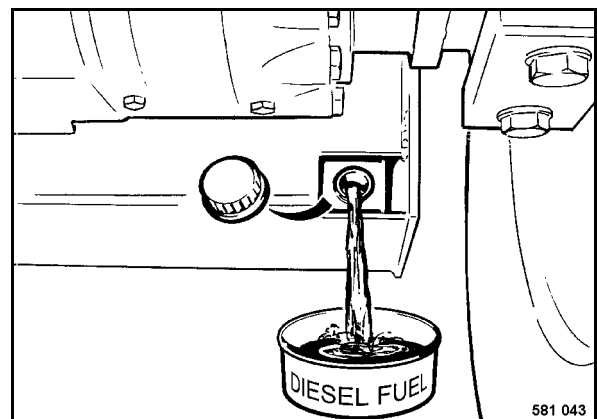

Fig. 143
- Unscrew the cap (Fig. 143) and drain off approx. 5 litres of fuel.